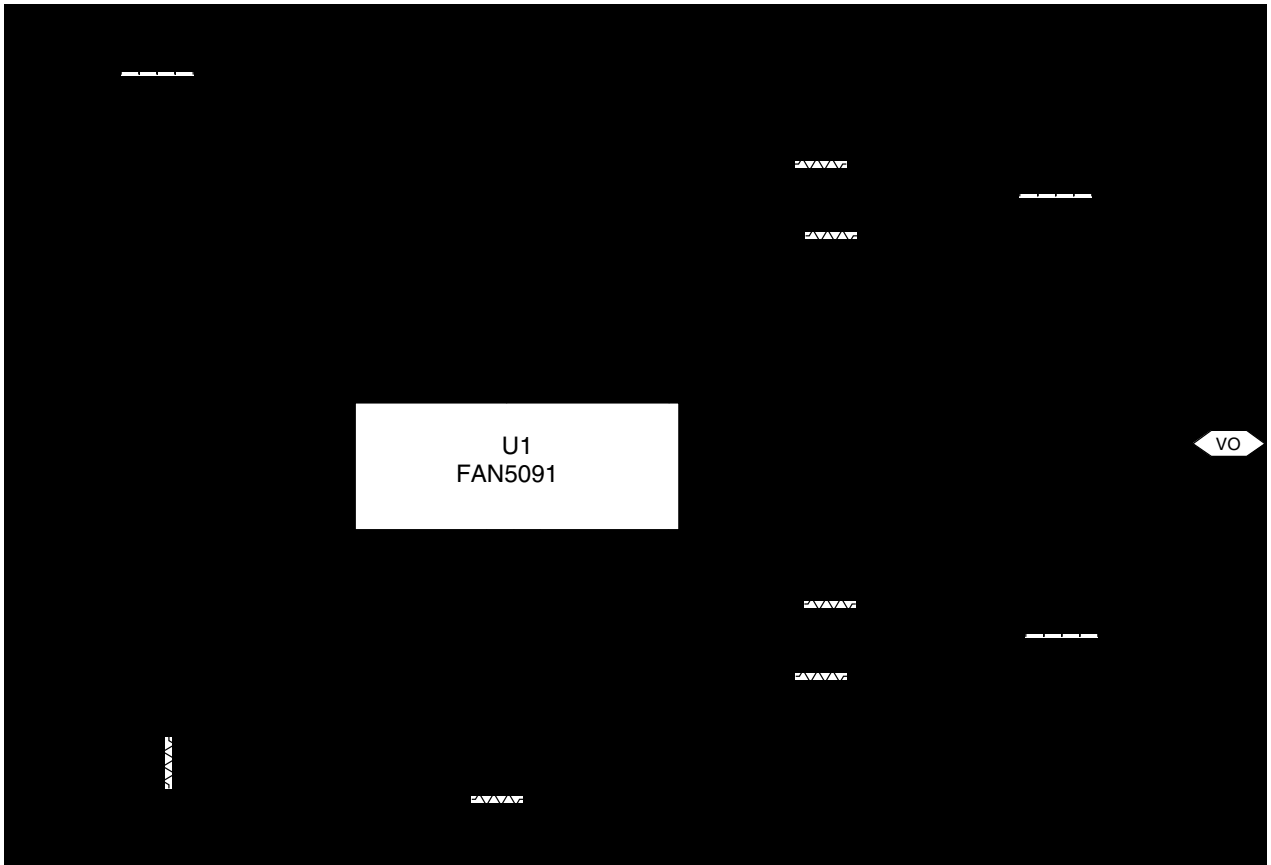

Figure 1. Application Circuit for 1.6V, 35A Athlon Medium-Frequency Application (500 KHz each slice)
( $V_{CC} = 12V$ ,  $V_{OUT} = 1.500V$ , and  $T_A = +25^\circ C$  using circuit in Figure 1, unless otherwise noted.)
**Table 2. FAN5091 Application Bill of Materials for Figure 1**